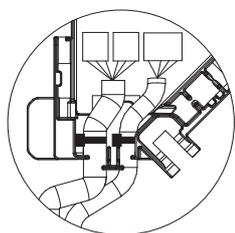

Fig. 6-16
- Make sure that the band securing the i-see Sensor and signal receiver junction wires is positioned inside the connector box. (Fig. 6-16)
- (A) i-see Sensor
- (B) Signal receiver
- (C) Fastener
- (D) Wire clip
- (E) "○" stamp : default i-see Sensor position
- (F) "□" stamp : default signal receiver position